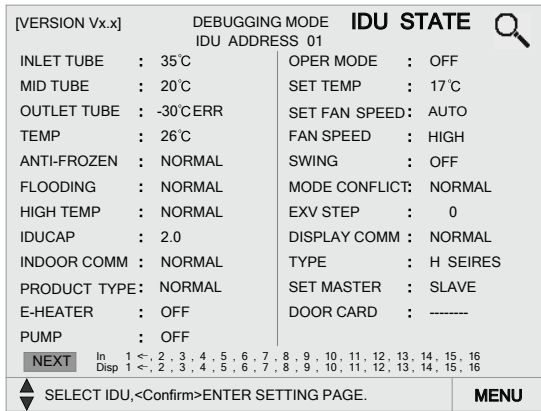

Fig4-2 IDU STATE page
**Step 1:** Enter the **IDU STATE** page (Fig.4-2). When entering the page initially, the cursor will indicate the minimum address of the online indoor unit.
**Step 2:** After selection, enter the **IDU STATE** page (Fig.4-2). Press the ▲/▼ button to view the running parameter of indoor unit.